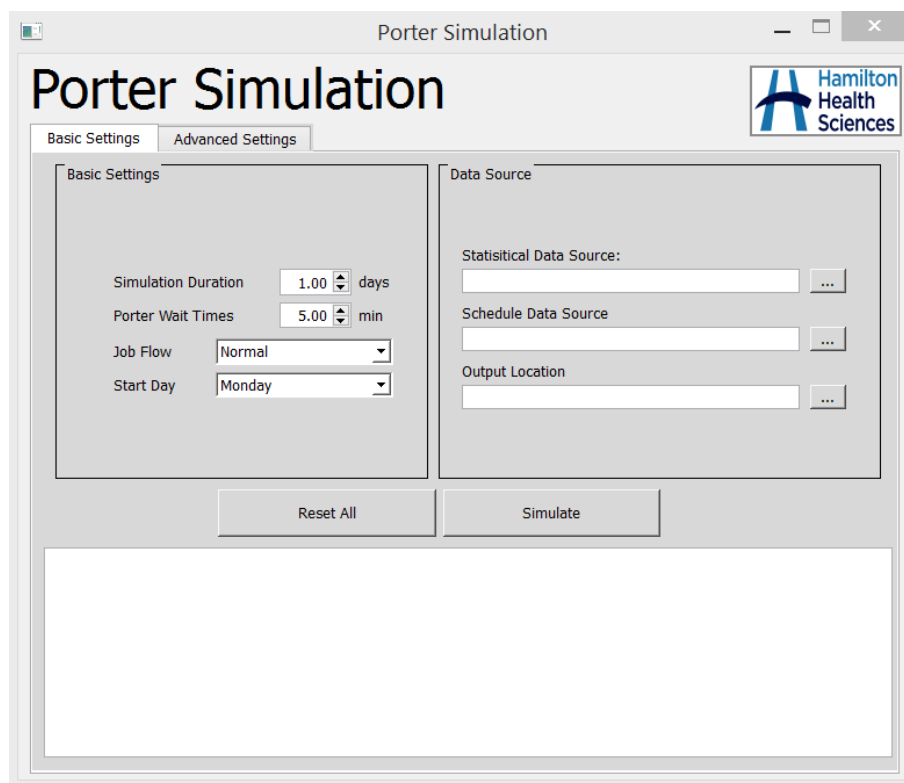

Figure 5.1: Basic Settings
- Figure 5.1: BasicSettings (Page 4)